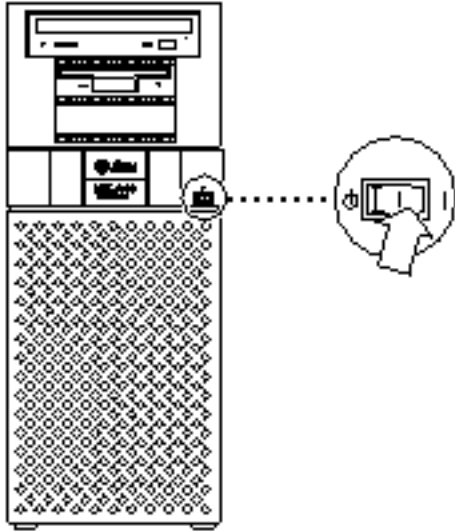
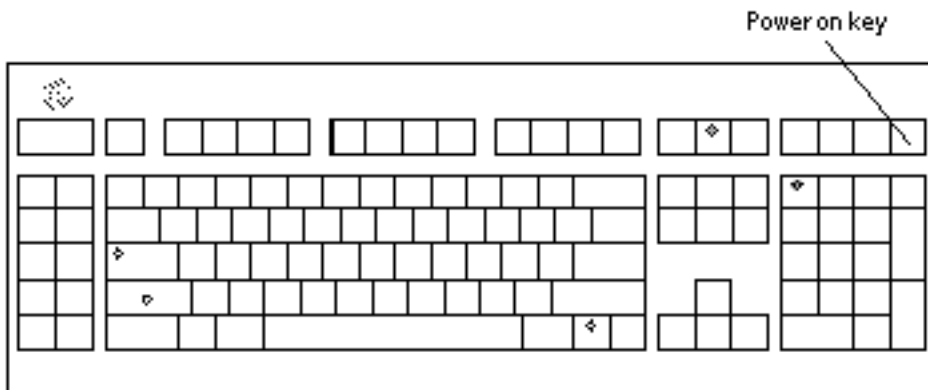

Figure 1-14 System Unit Power-On (Front Panel)
Figure 1-15 Sun Type-5 Keyboard
- b. Set the front panel power switch to the On position (Figure 1-14) or press the Sun Type-5 keyboard power on key (Figure 1-15).